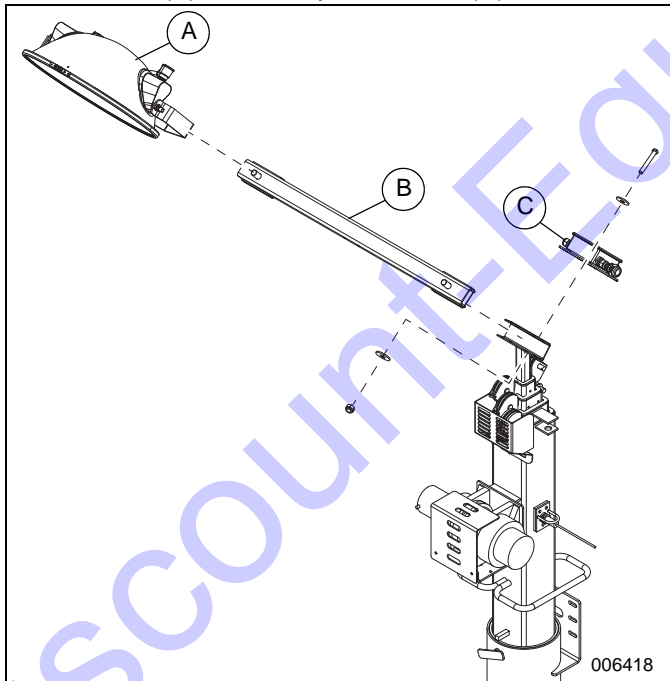

Figure 16. Light Fixture and Crossbar Removal
3. See Figure 16. Remove light fixtures (A). Remove crossbar (B). Remove junction box (C).